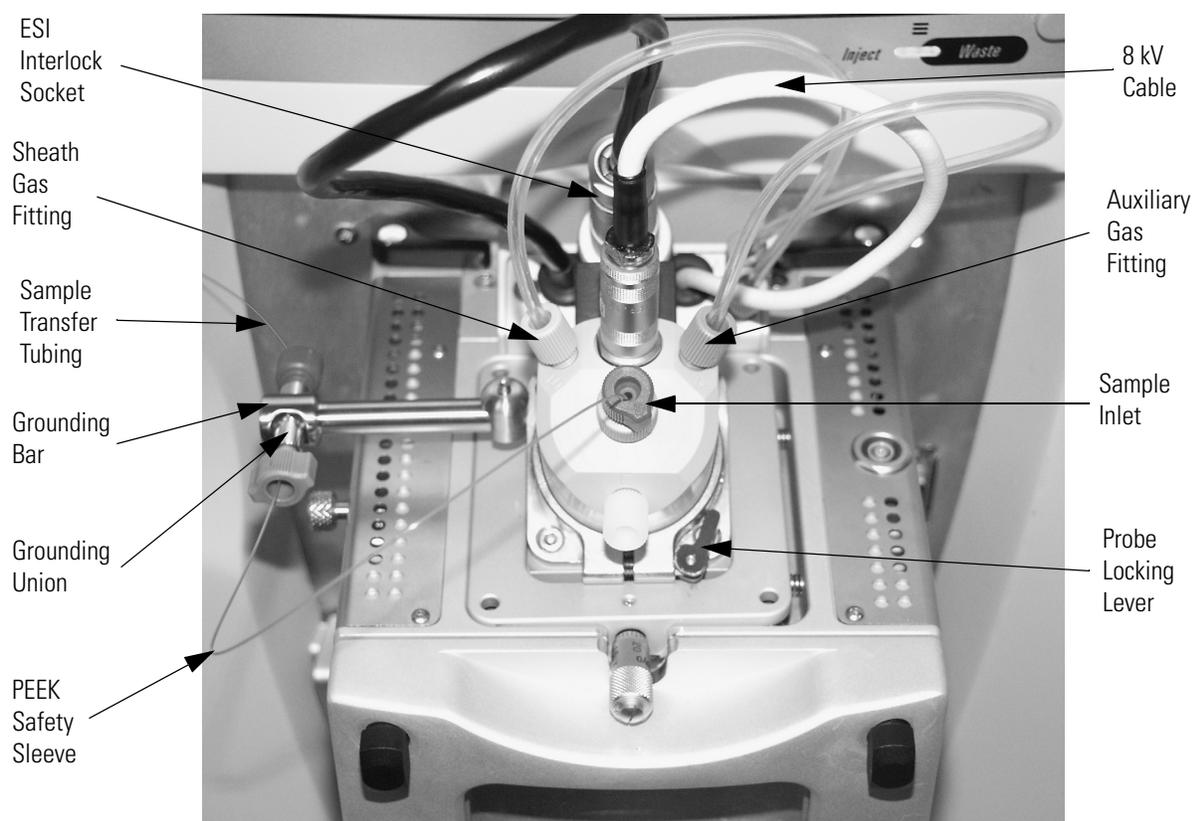

Figure 50. Ion Max ion source housing with ESI probe installed
2. Disconnect the sample transfer tubing from the stainless steel ZDV fitting (grounding union). See Figure 50.
3. Remove the 8 kV cable from the ESI needle high voltage receptacle shown in Figure 50 as follows:
4. Disconnect the Auxiliary Gas fitting (green) from the auxiliary gas inlet (A) on the probe manifold. (Figure 50.)
5. Disconnect the Sheath Gas fitting (blue) from the sheath gas inlet (S) on the probe manifold.